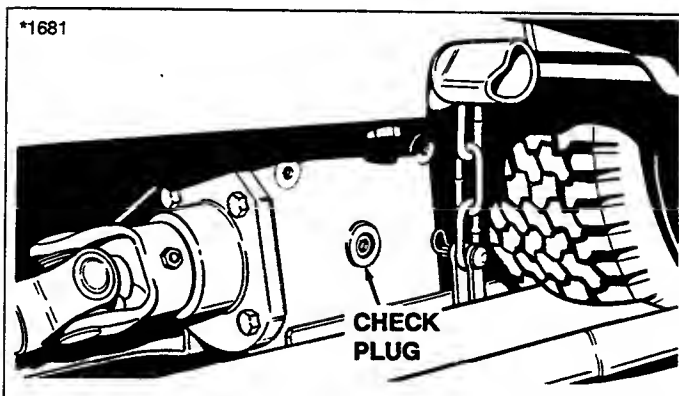

Figure 11. Gear Box Fluid Check
1. See figure 11. Remove check plug on left-hand side of gear box.